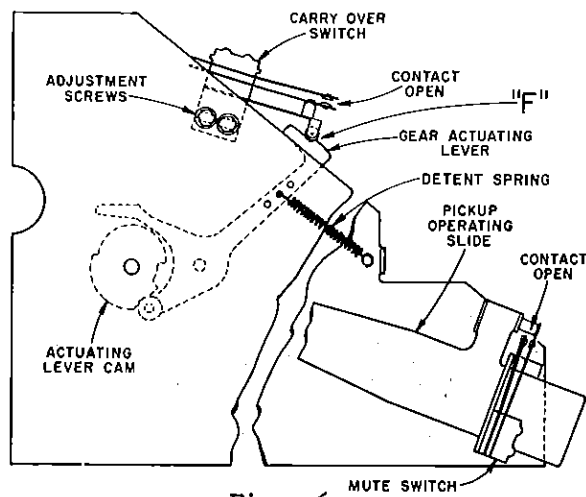

Figure 6.
No. 8 PICKUP OPERATING GEAR DETENT (Detent Spring Position.) (*Figure 6*.)
1. With mechanism in bottom side play position, trip and turn spindle until pickup arm is fully returned to rest position. Roller on actuating lever and the actuating lever cam should be as shown in *Figure 6*.
2. Loosen the switch bracket mounting screws and position switch until the roller of blade is $1/64$ inch from the slope of lever at F, *Figure 6*.
MUTE SWITCH (*Figure 6*)